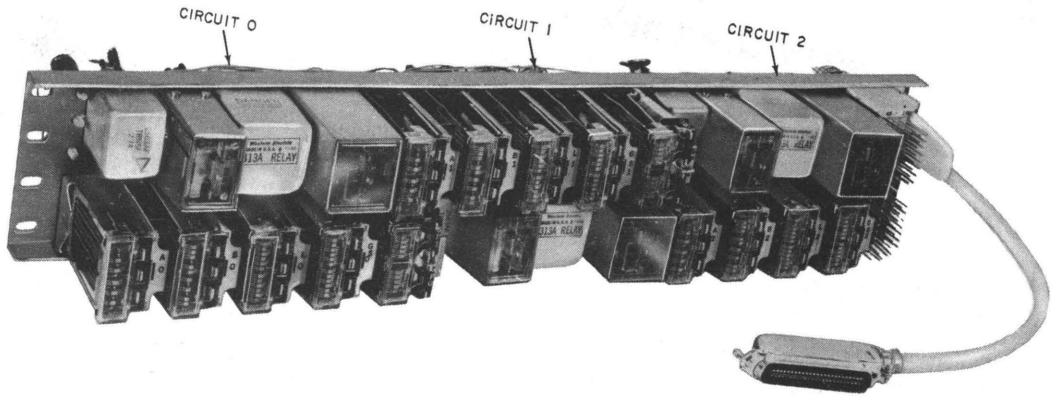

Fig. 1—J53050L Interconnecting Unit (Front View)
- J53050L, List 1 Interconnecting Unit (Fig. 1 and 2)